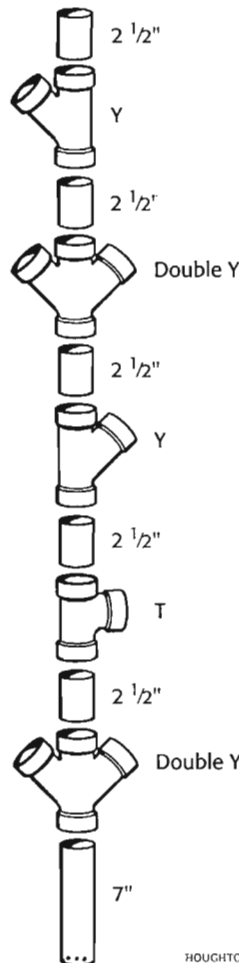

Figure 12. Leg assembly
d. Using one T section, two single Y sections, two double Y sections, five 2 1/2-inch connectors, and one 7-inch PVC pipe connector, assemble one leg assembly (as shown in figure 12). Top fittings will be added later. Assemble all the fittings on a flat work surface. Make sure the top-inlet ends of all the fittings face toward the top. As you work, place a board lengthwise across the work surface to ensure that the assembled leg is straight. Begin by joining the double Y section to the 7-inch connector, with the opening of the double Y section facing right and left. Finally, connect the remaining single Y section to the top of the double Y section, with the opening facing left.